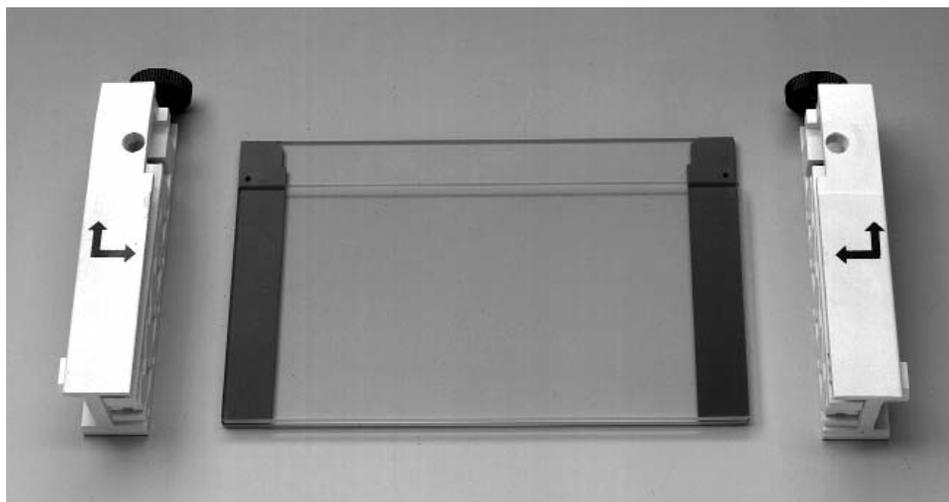

Fig. 4.5. Positioning glass plates, spacers, and clamps.
3. Loosen the single screw of each sandwich clamp by turning counterclockwise. Place each clamp by the appropriate side of the gel sandwich with the locating arrows facing up and toward the glass plates (Figure 4.5).